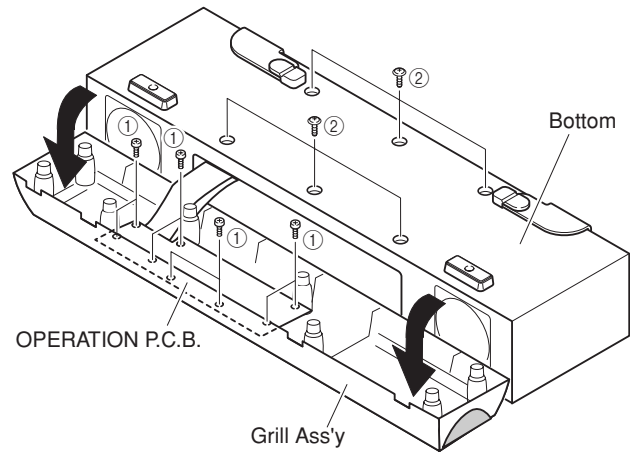

Fig. 1
- b. Push up the Grille Assembly with the screwdriver gradually until it can be removed from the main unit. (Fig. 1).
- c. Remove 8 screws (①). The OPERATION P.C.B. can then be removed from the Grille Assembly. (Fig. 1)
- a. Remove 6 screws (②). (fig. 1)